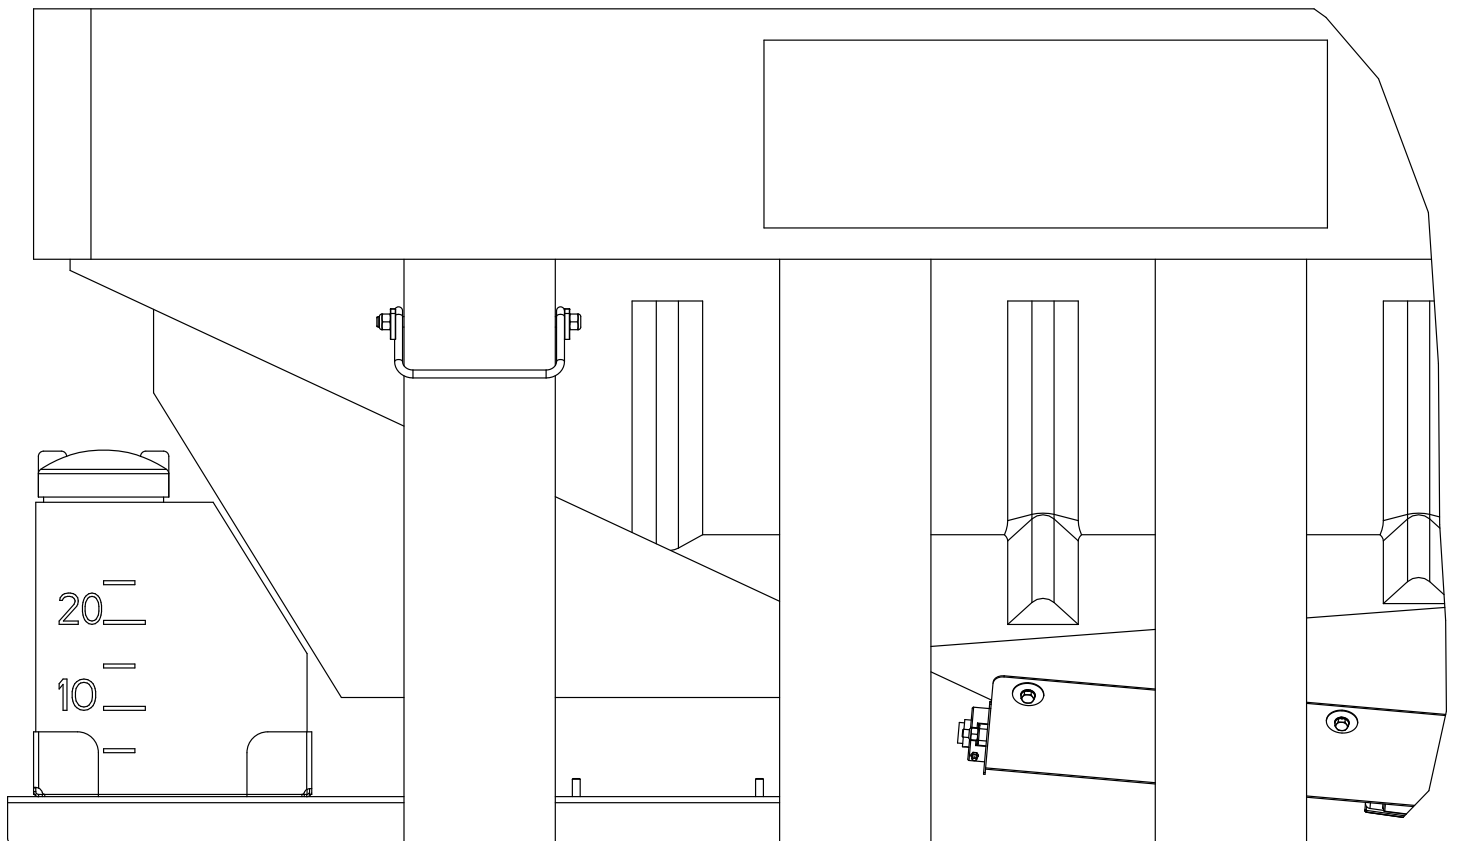

Fig. 2
2. Lower spreader onto support, Make sure support's long brackets are inside of spreader legs openings and screws are between two front legs as shown in Fig.2